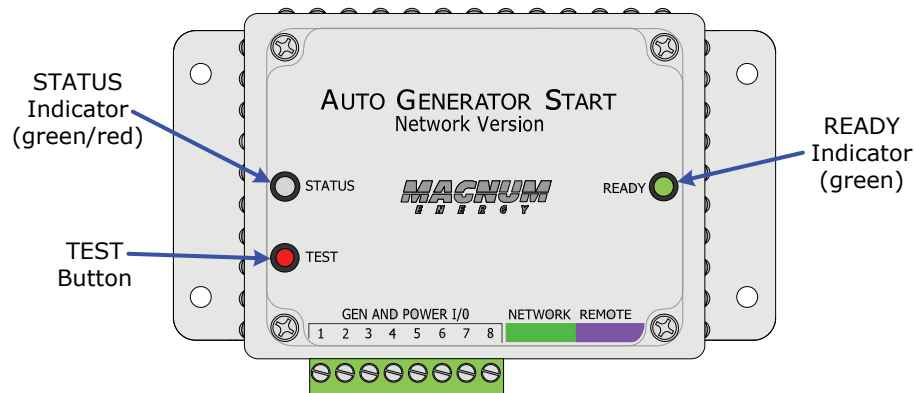

Figure 5-1, ME-AGS-N Front Panel Controls and Indicators
1. Press and release the red TEST button on the AGS (see Figure 5-1).
The front of the module (Figure 5-1) has a red pushbutton to test the AGS system operation. When the red TEST pushbutton is pressed and released, the AGS initiates an automatic generator start/stop sequence. This test attempts to turn the connected generator on and to have it run for at least 30 seconds before turning off. This start/stop test is used to confirm that all wiring from the generator to the AGS is correct and that the AGS is configured correctly for your generator type.
The front of the module (Figure 5-1) has two LED indicators for viewing system operation.
1. Ensure the green READY indicator on the AGS module is on (blinking or solid) to indicate that the AGS module is getting power (see Figure 5-1).